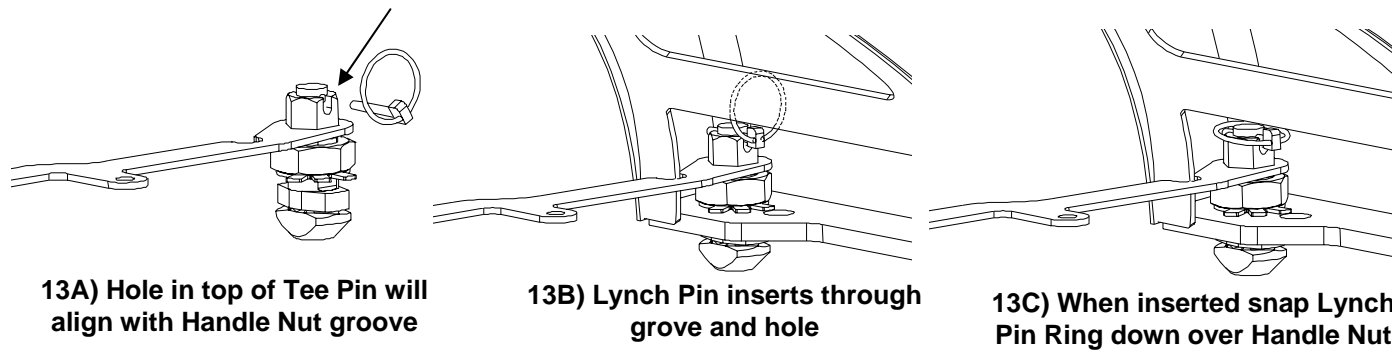

Figure 13 : Inserting Lynch Pin
6. Insert anchor tee pin through bushing from bottom of base arch and thread into appropriate handle(see Figures 12A and 12B). (With notch in nut facing up and handle pointing toward you, the locking hole is to the right for the left handle and to the left for the right handle.) Keeping the handle in the unlocked position thread the anchor tee pin into handle nut until there is metal to metal contact with the bushing. Back tee pin off until parallel with bushing(less than 1/2 rotation), then loosen 1 more full rotation for nominal clearance adjustment(see Figures 12C,12D, and 12E). At this point the slot in the handle nut and the hole in the tee pin should be aligned and the lynch pin needs to be inserted and closed(see Figure 13).